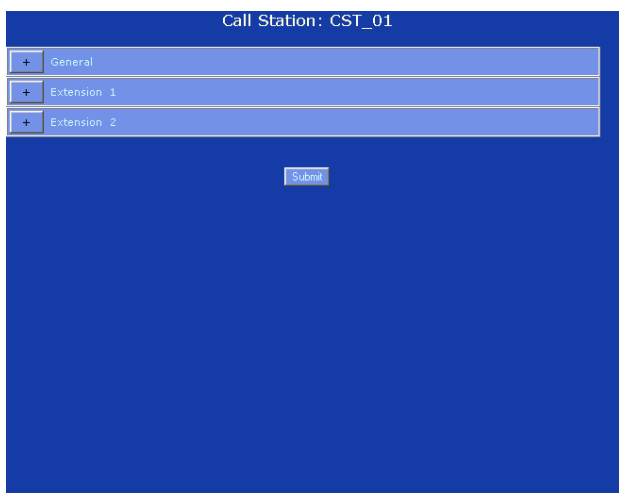

figure 38.47: Local BGM on/off, step 2
- 2 Click the name of the call station to which the keypad of which the key that must be configured has been connected. A screen similar to the one in figure 38.47 appears in the main frame of the web interface.